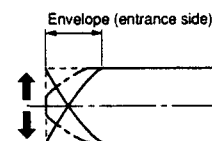

Fig. 7-3-9 Video envelope rising when operation mode is switched from review to play mode
2. Switch the Review mode to the Play mode. When switched to the Play mode, make sure the entrance side envelope comes to an approximate steady state within 3s as shown in Fig. 7-3-9.